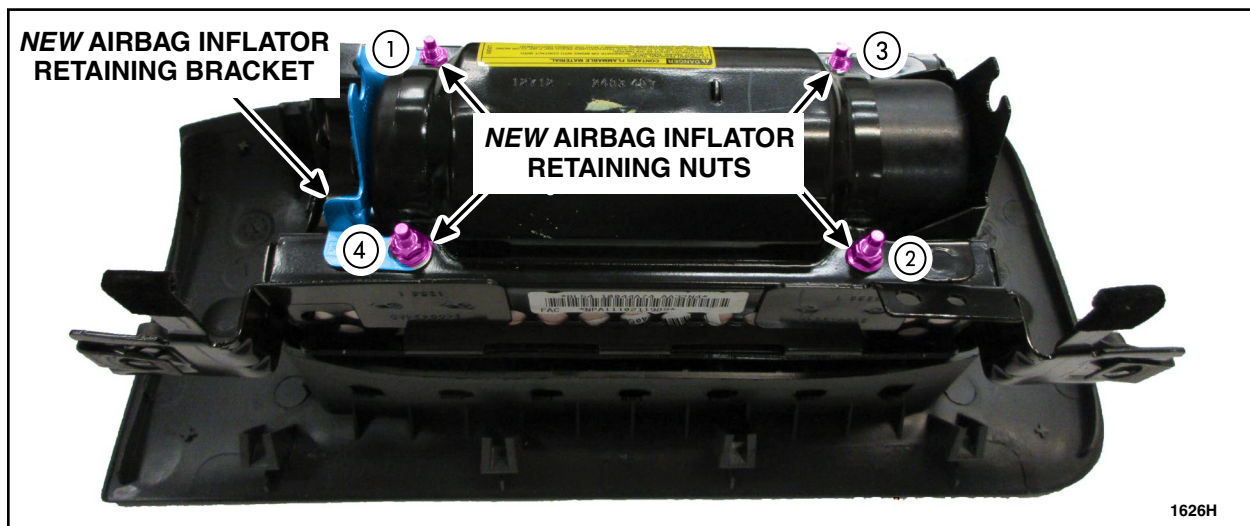

FIGURE 9
12. Install the *new* passenger airbag inflator retaining bracket and *new* nuts. See Figure 9.